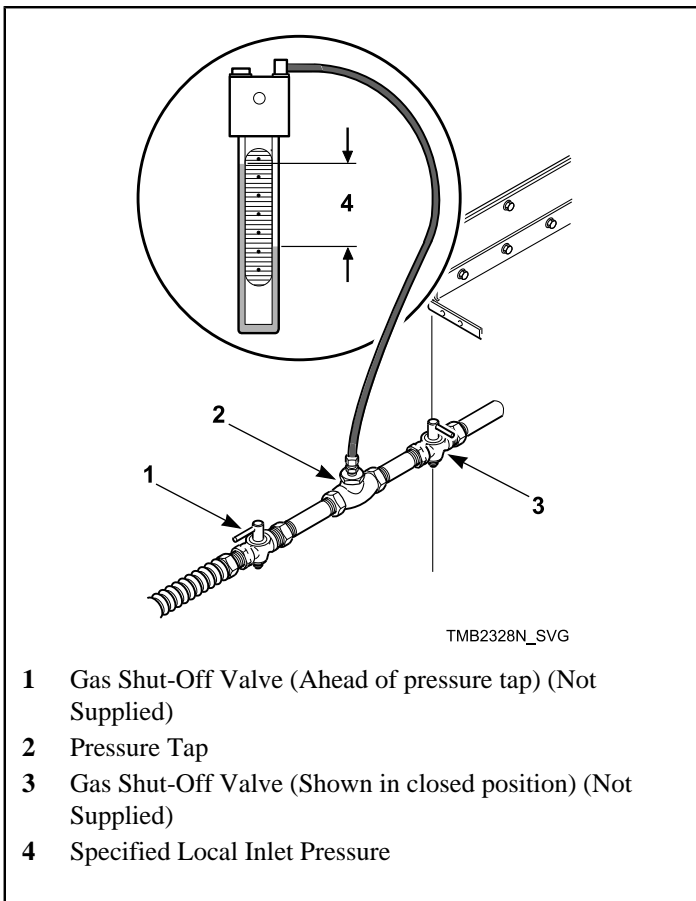

Figure 14
1. Disconnect electrical power from tumble dryer. Close gas shut-off valve to tumble dryer. Refer to *Figure 14* .